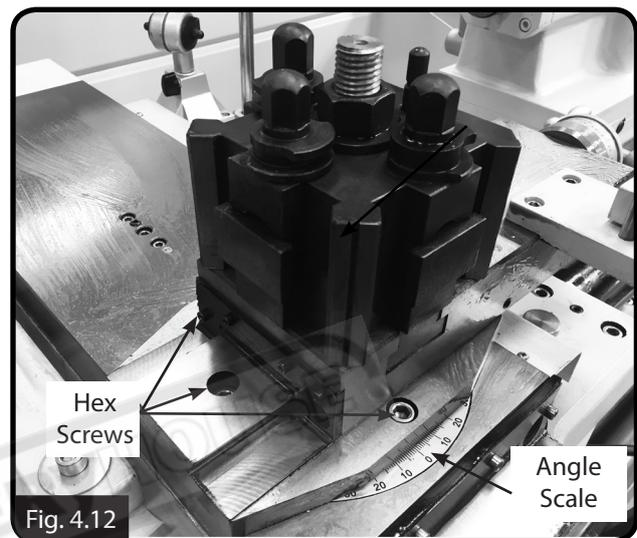

Fig. 4.12
1. Loosen the three hex screws at the base of the compound rest. (One at the front and one either side of the compound slide.) (Fig 4.12).